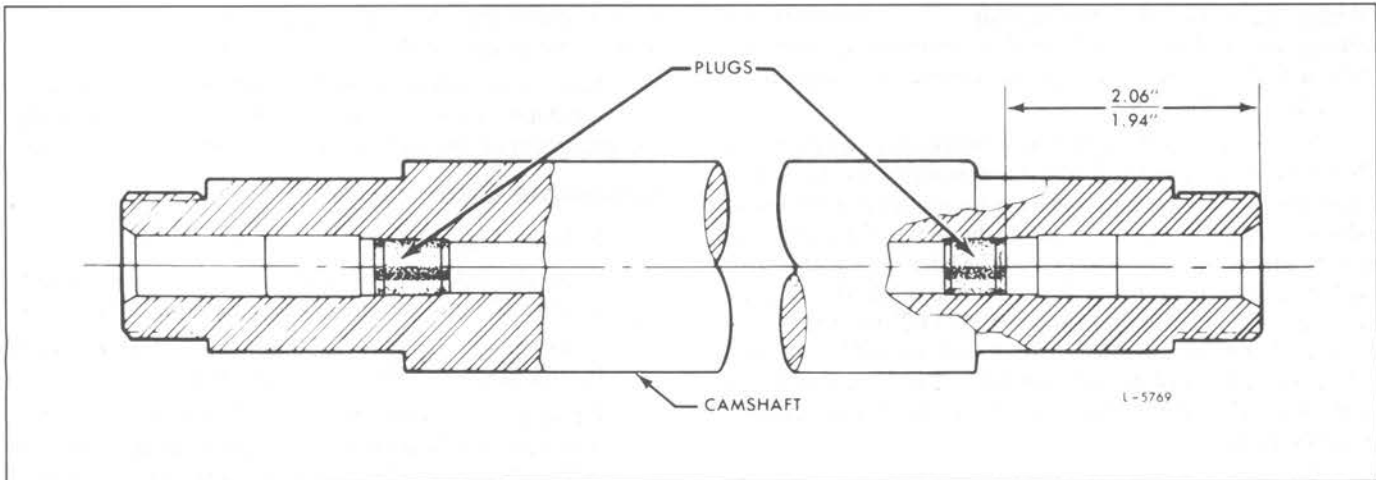

Fig. 11 – Camshaft Plug Installation
2. Install new end plugs in each camshaft. Press the plugs in to a depth of 1.940" to 2.060" (Fig. 11).